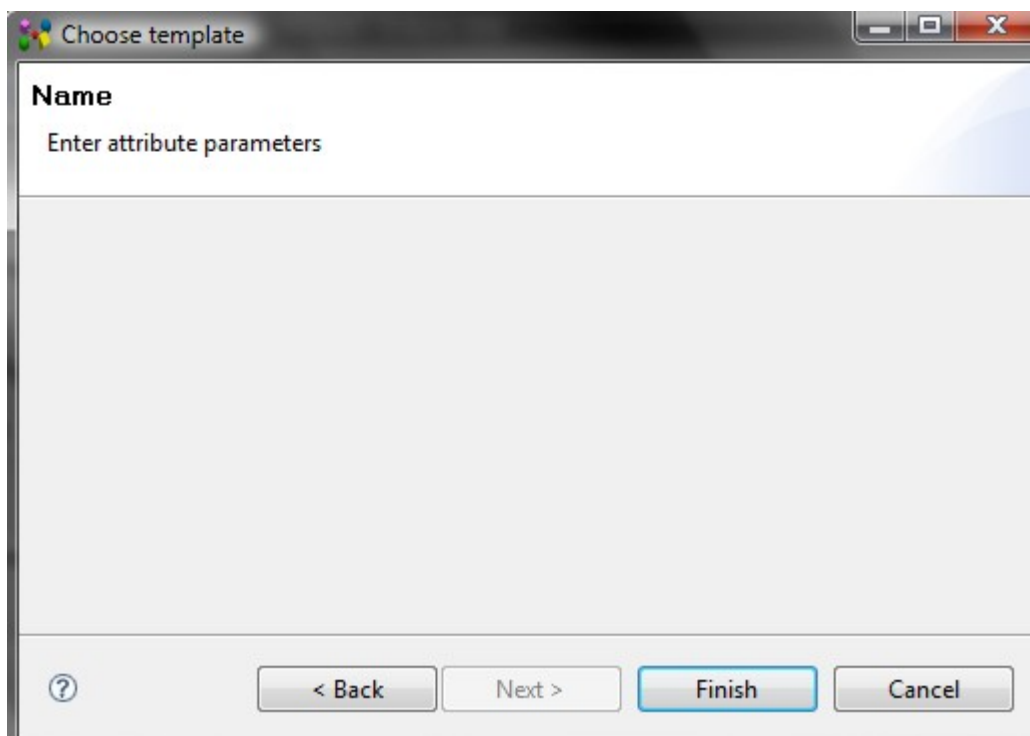

Figure 7. Column template parameters
- Press **Next** button to follow to the next **Choose template** wizard page (see Figure 7).